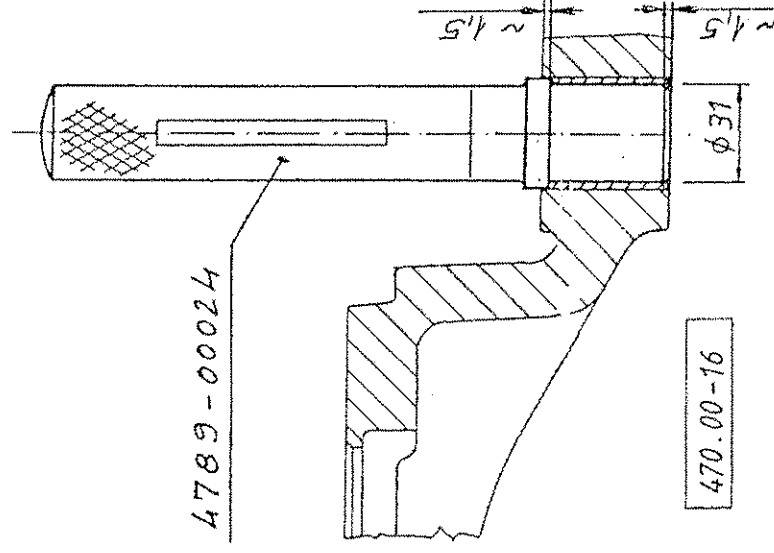

Fig. 1.: PRESSING THE BUSHINGS IN AND OUT
E.g.: If diameter of the trueed up brake drum is 422 mm, true up the brake shoe to R210.6 - R210.3 mm as shown in Fig. 1.
If the anchor pin bushing (16) are to be replaced, use the tool shown. Fig. 1.